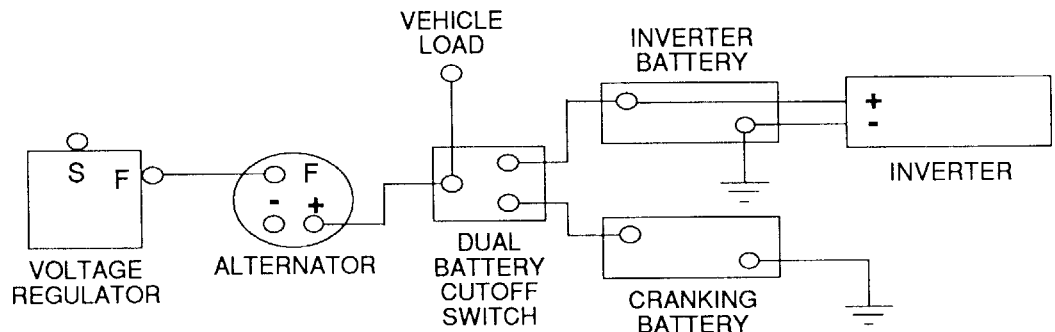

Figure 2.4 - Installation With Manual Dual Battery Disconnect Switch
2. Connect the vehicle battery and the inverter battery to a dual battery switch as shown in Fig. 2.4 below.